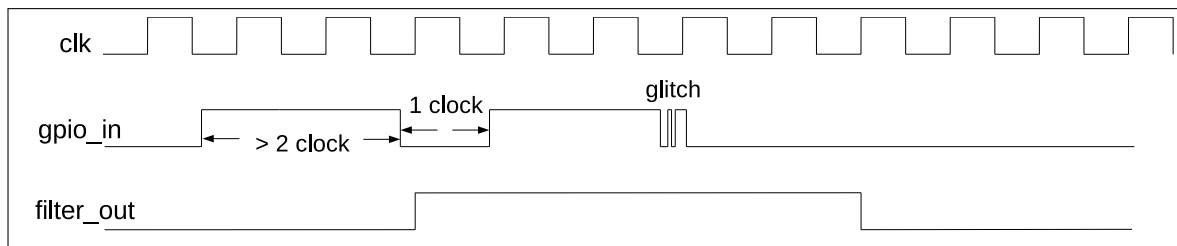

Figure 5-3. Filter Timing Diagram of GPIO Input Signals
2. Enable the filter for pad input signals by setting the register `IO_MUX_FILTER_EN`. Only the signals with a valid width of more than two clock cycles can be sampled, see Figure 5-3.